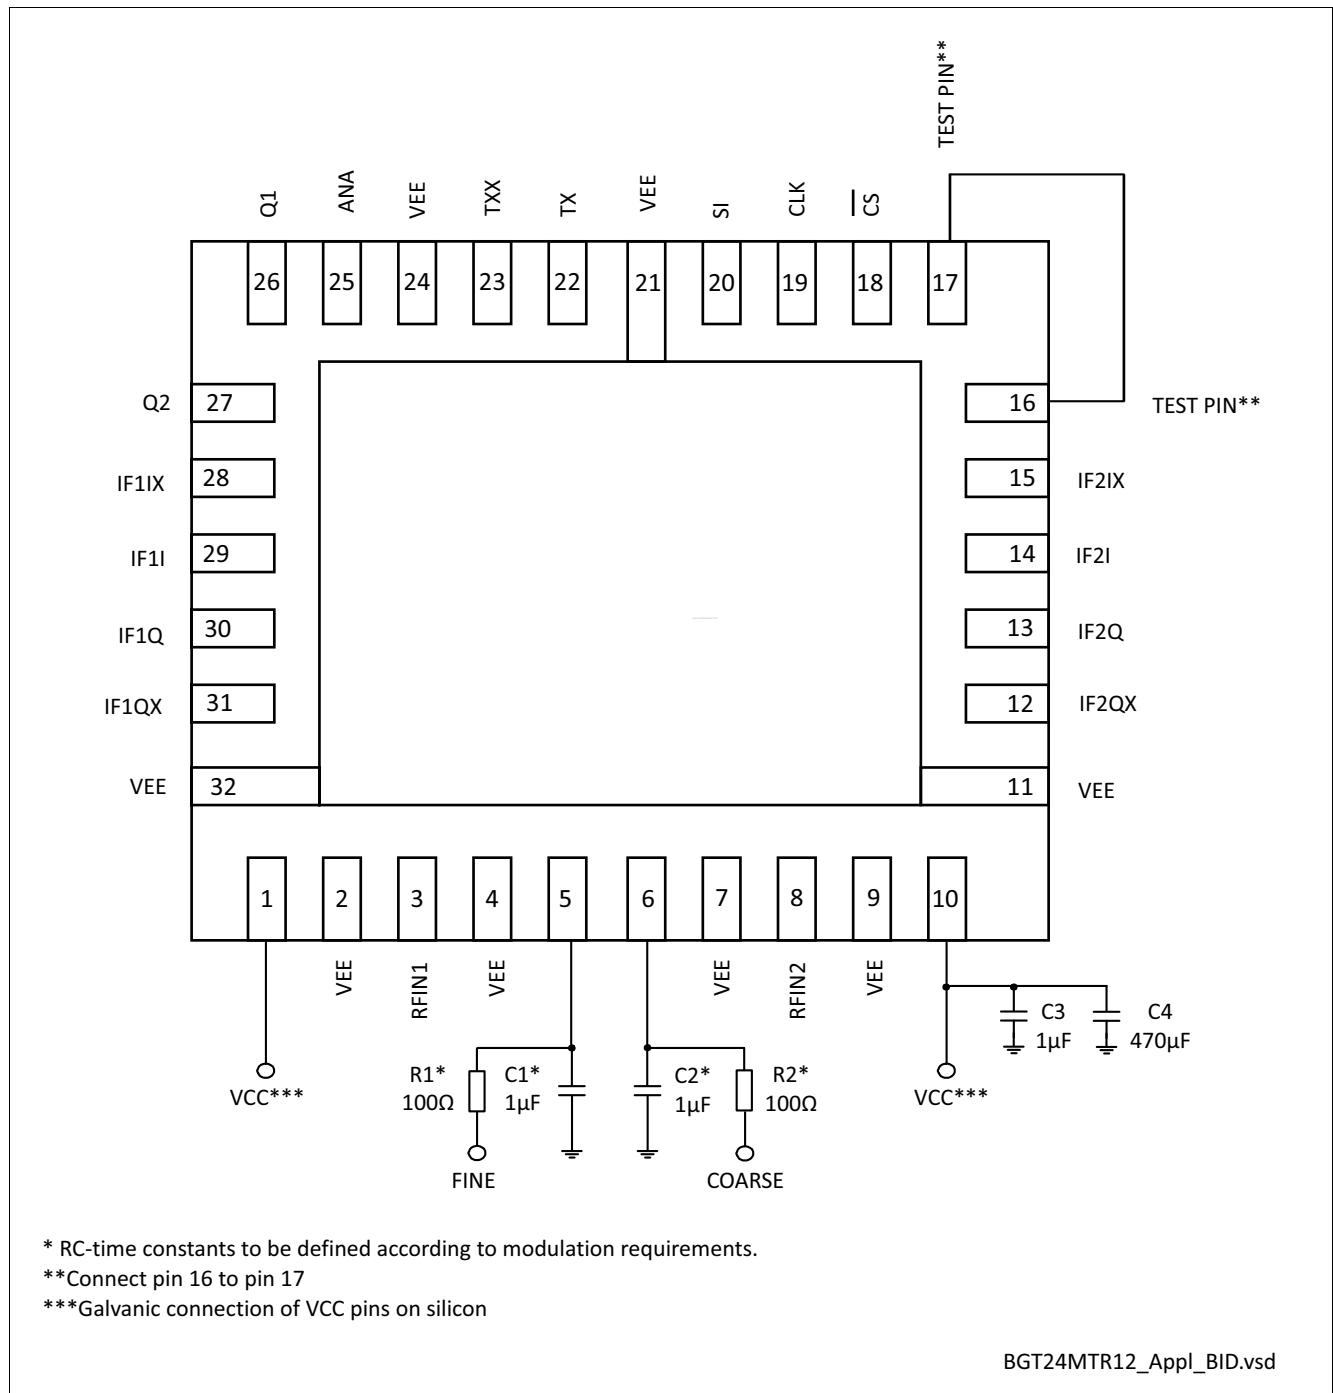

Figure 2 Application Circuit with Chip Outline (Top View)
1) Performance based on application circuit in Figure 2 on Page 14
- 1) Performance based on application circuit in Figure 2 on Page 14